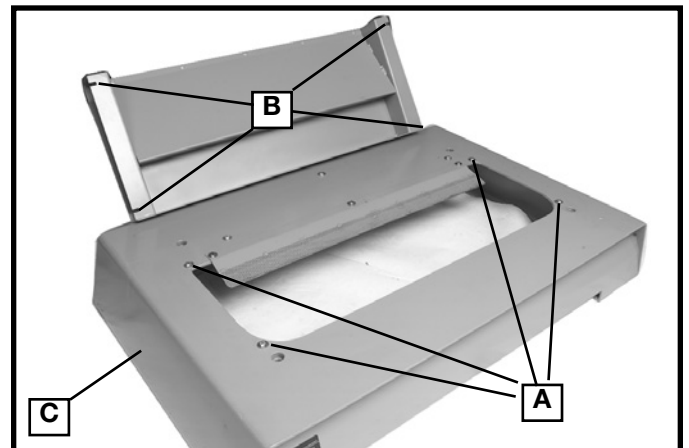
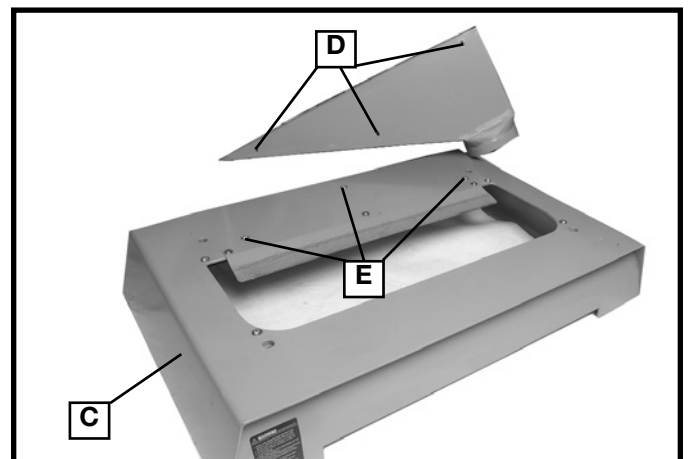
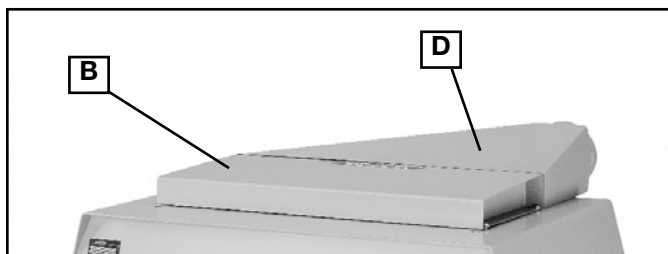

Fig. 6
Fig. 7
Fig. 7A
2. Remove four screws and washers at (A) Fig. 6.
3. Place guard on planer cover (C) so that the holes in the guard (B) align with the holes in the cover (C).
5. Remove three screws (E) Fig. 7 on planer cover (C).
6. Place dust chute on cover so that the holes in the dust chute (D) align with the holes in the cover (C).
8. The cutterhead guard (B) Fig. 7A and dust chute (D) Fig. 7A should be arranged as shown in Fig. 7A